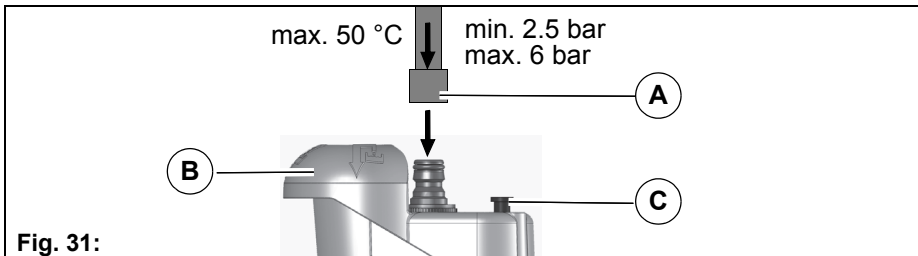

Fig. 31:
1. Fit the hose with the quick coupler **Fig. 31-A**. Do not yet open the water supply!
2. Push the operating button **Fig. 31-B**. The indicator knob **Fig. 31-C** protrudes.
4. The filling unit switches off automatically when the tank is full. The indicator knob **Fig. 31-C** no longer protrudes.
The machine can also be filled manually through the opening in the operating button **Fig. 31-B**.